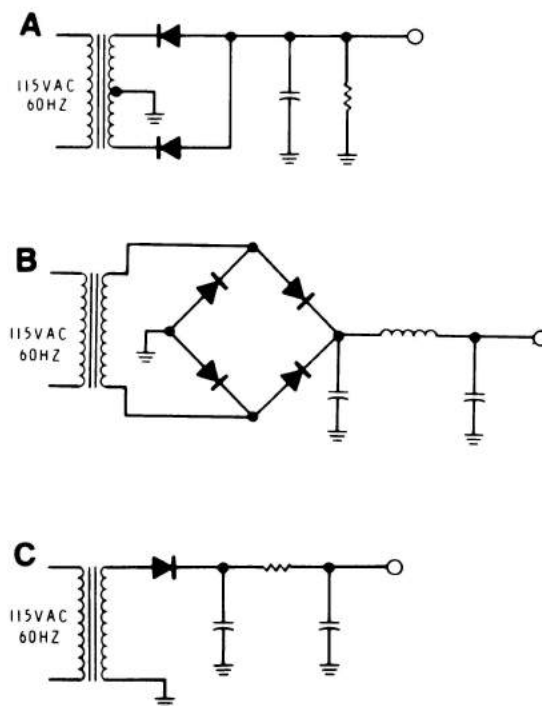

Figure 4-22
- Identify the circuits shown in Figure 4-22.
1. The circuits shown in Figure 4-22 are: